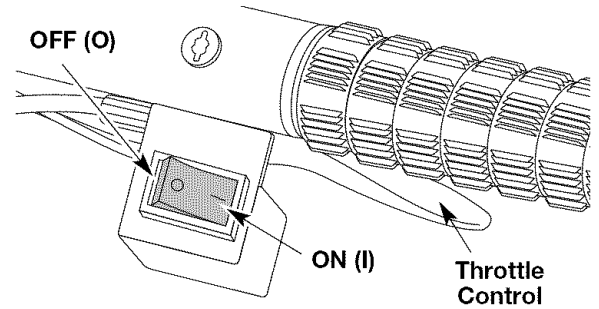
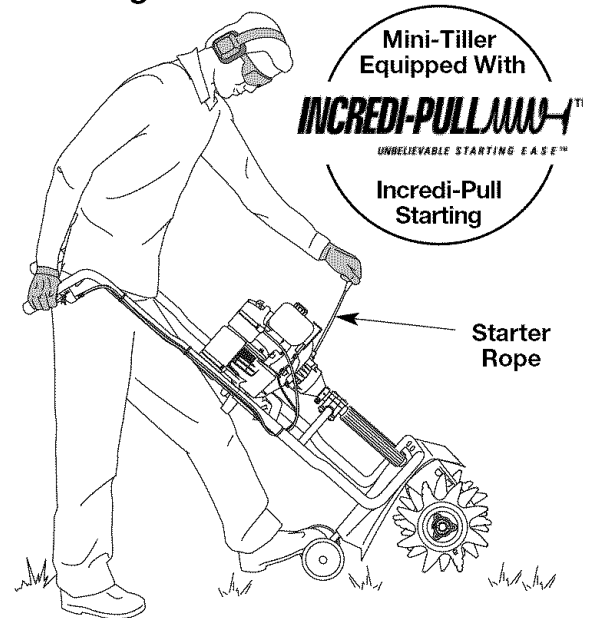

Fig. 7
Fig. 9
2. Put the ignition switch in the **START (I)** position (Fig. 7).
5. While squeezing the throttle control (Fig. 7), pull the starter rope out with a **controlled and steady motion** 1–5 times (Fig. 9).
7. While squeezing the throttle control (Fig. 7), pull the starter rope with a **controlled and steady motion** to start the engine (Fig. 9).
9. Once the engine is warmed up, place the choke lever in **Position 3** (Fig. 9). Release the throttle control to the idle position and begin operation.
**IF...** the engine hesitates, return choke lever to **Position 2** (Fig. 9) and continue warm up.